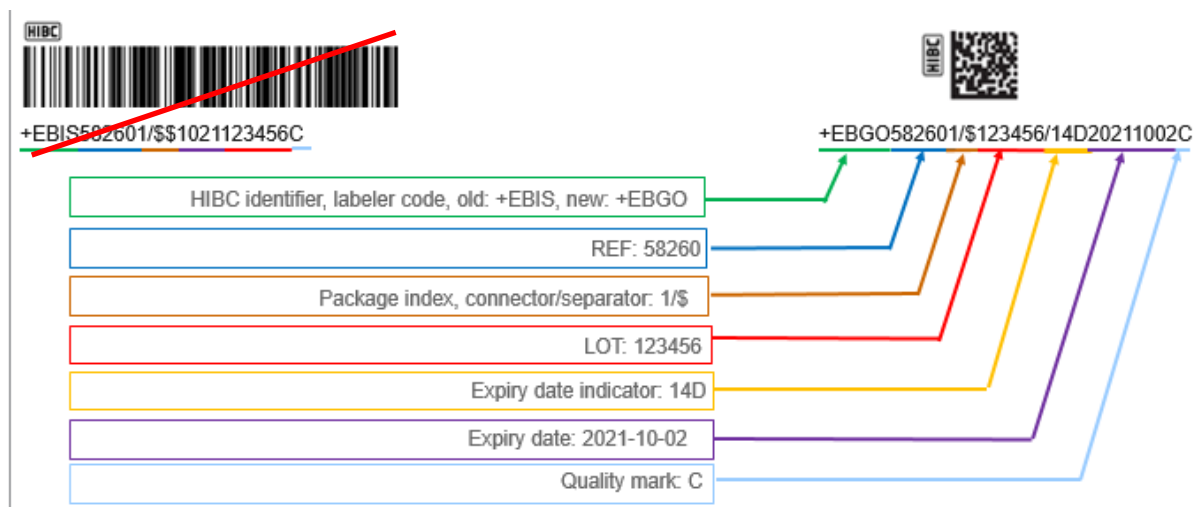

Fig. 3: Data contained in the DataMatrix code
- As a backup, in case digital scanning fails, all the data is also provided in text below the code (see Fig. 3)